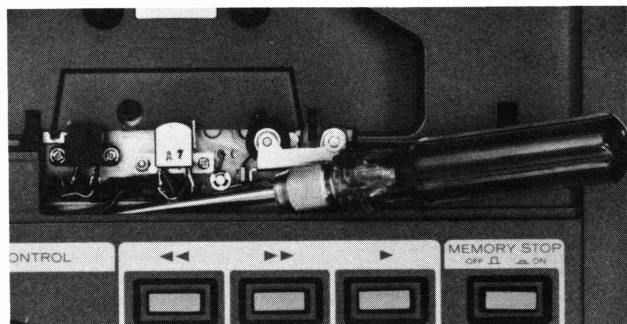

Fig. 5-2-6
- 2) The head will be more accessible if the head base is fixed in the operating position Fig. 5-2-6.